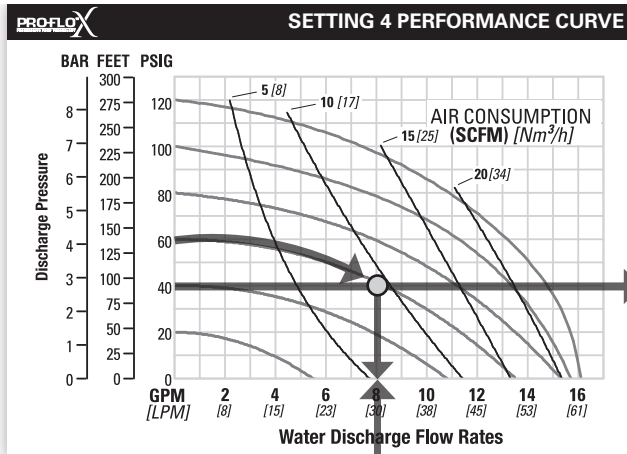

Figure 1
**FIGURE 1** The air valve directs pressurized air to the back side of diaphragm A. The compressed air is applied directly to the liquid column separated by elastomeric diaphragms. The diaphragm acts as a separation membrane between the compressed air and liquid; a balanced load removes mechanical stress from the diaphragm. The compressed air moves the diaphragm away from the center of the pump. The opposite diaphragm is pulled in by the shaft connected to the pressurized diaphragm. Diaphragm B is on its suction stroke; air behind the diaphragm has been forced out to atmosphere through the exhaust port of the pump. The movement of diaphragm B toward the center of the pump creates a vacuum within chamber B. Atmospheric pressure forces fluid into the inlet manifold forcing the inlet valve ball off its seat. Liquid is free to move past the inlet valve ball and fill the liquid chamber (see shaded area).
**Step 1: Identifying performance at setting 4.** Locate the curve that represents the flow rate of the pump with 4.1 bar (60 psig) air inlet pressure. Mark the point where this curve crosses the horizontal line representing 2.8 bar (40 psig) discharge pressure (Figure 1). After locating your performance point on the flow curve, draw a vertical line downward until reaching the bottom scale on the chart. Identify the flow rate (in this case, 8.2 gpm). Observe location of performance point relative to air consumption curves and approximate air consumption value (in this case, 9.8 scfm).